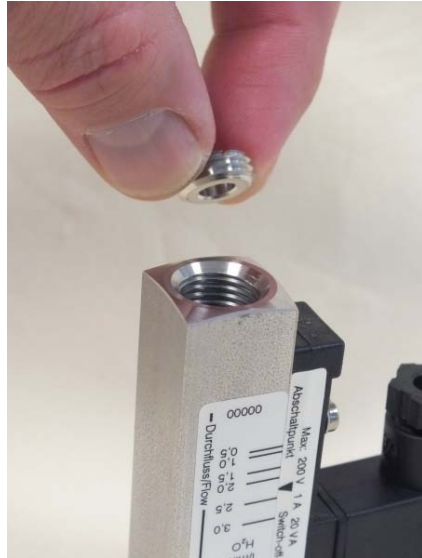

Fig. 41: Remove threaded ring (inlet)
8.  Remove the threaded ring (inlet) from the device body (Fig. 41)